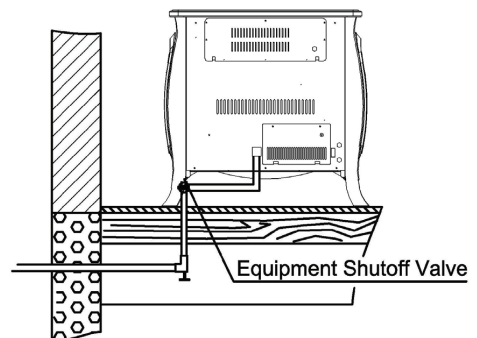

Figure 9 - Checking Gas Joints
3. Check all joints from gas meter to equipment shutoff valve (see Figure 9). Apply mixture of liquid soap and water to gas joints. Bubbles forming show a leak.
4. Check all joints from equipment shutoff valve to control valve (see Figure 9). Apply mixture of liquid soap and water to gas joints. Bubbles forming show a leak.